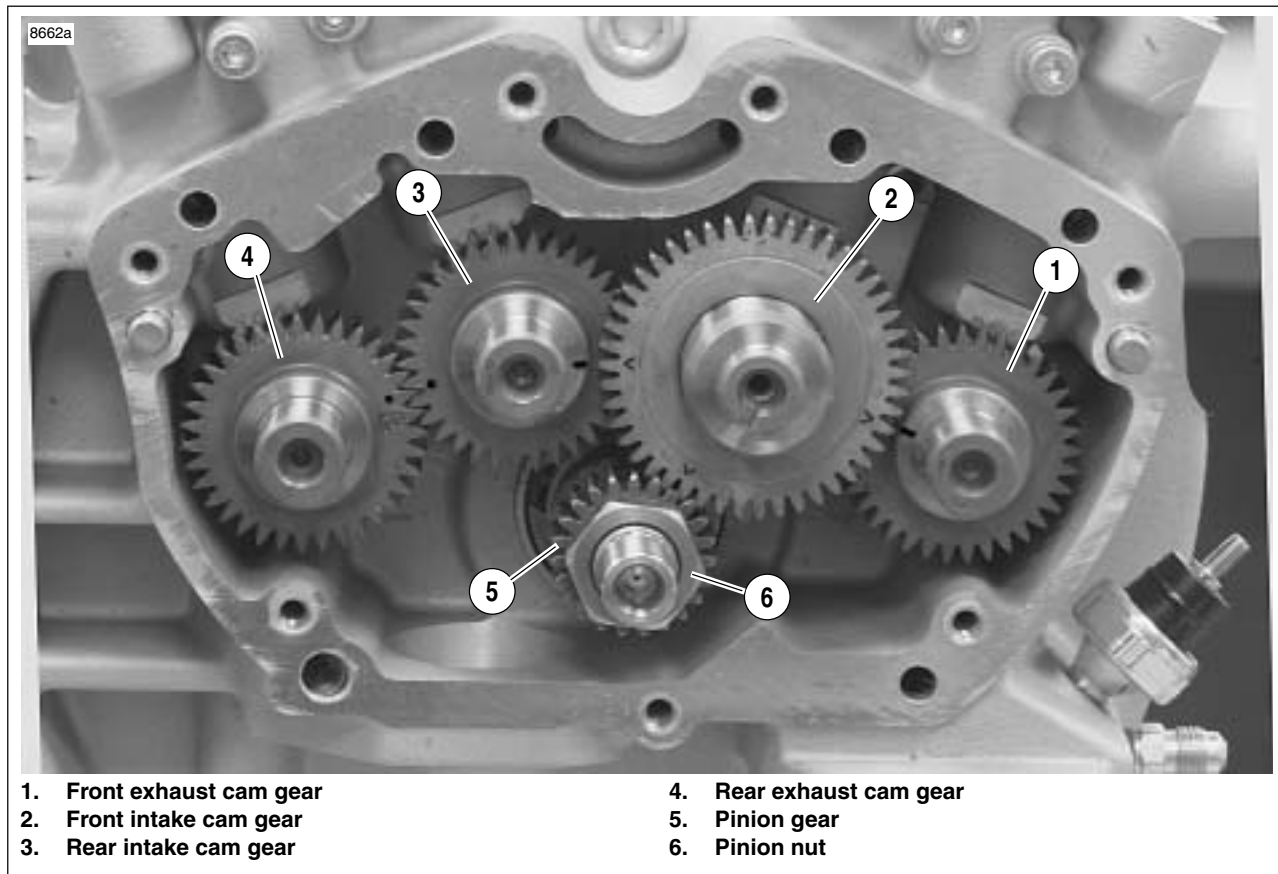

Figure 3-127. Cam and Pinion Gear Location and Timing Mark Indexing
8. See Figure 3-127. Remove cam gears (1, 2, 3 & 4).
See Figure 3-127. The XB9S uses new style timing marks on the front intake cam assembly (2). Please note the "V" markings.